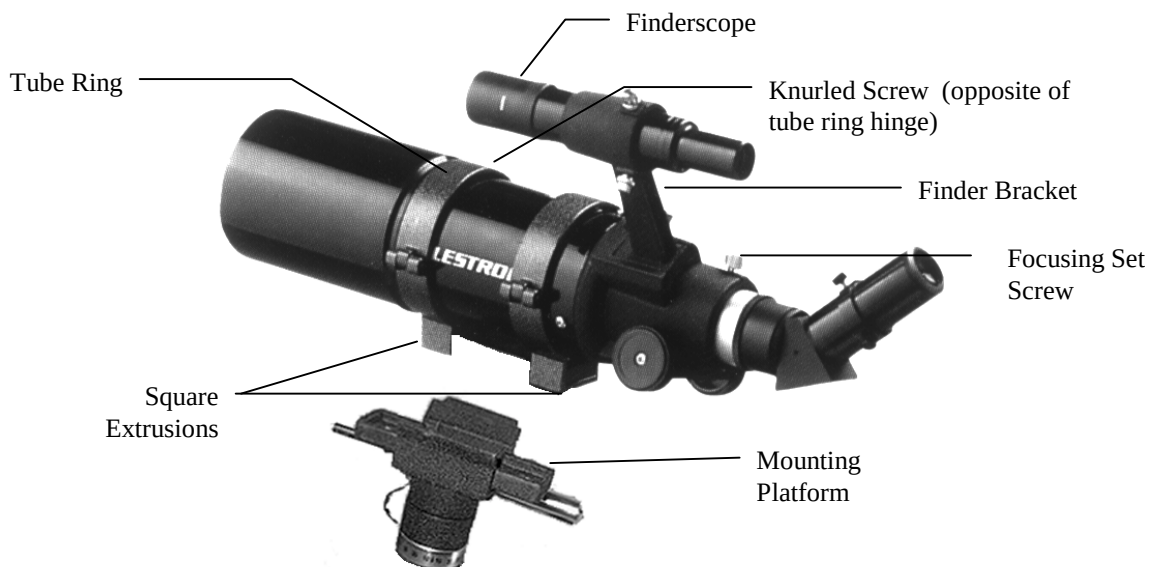

Figure 2
- The optical tube is held to the mount with two mounting rings. On the bottom of the mounting rings are square extrusions — one on each ring. This portion of the ring slides over the ends of the mounting platform to hold the telescope in place (see figure 2).